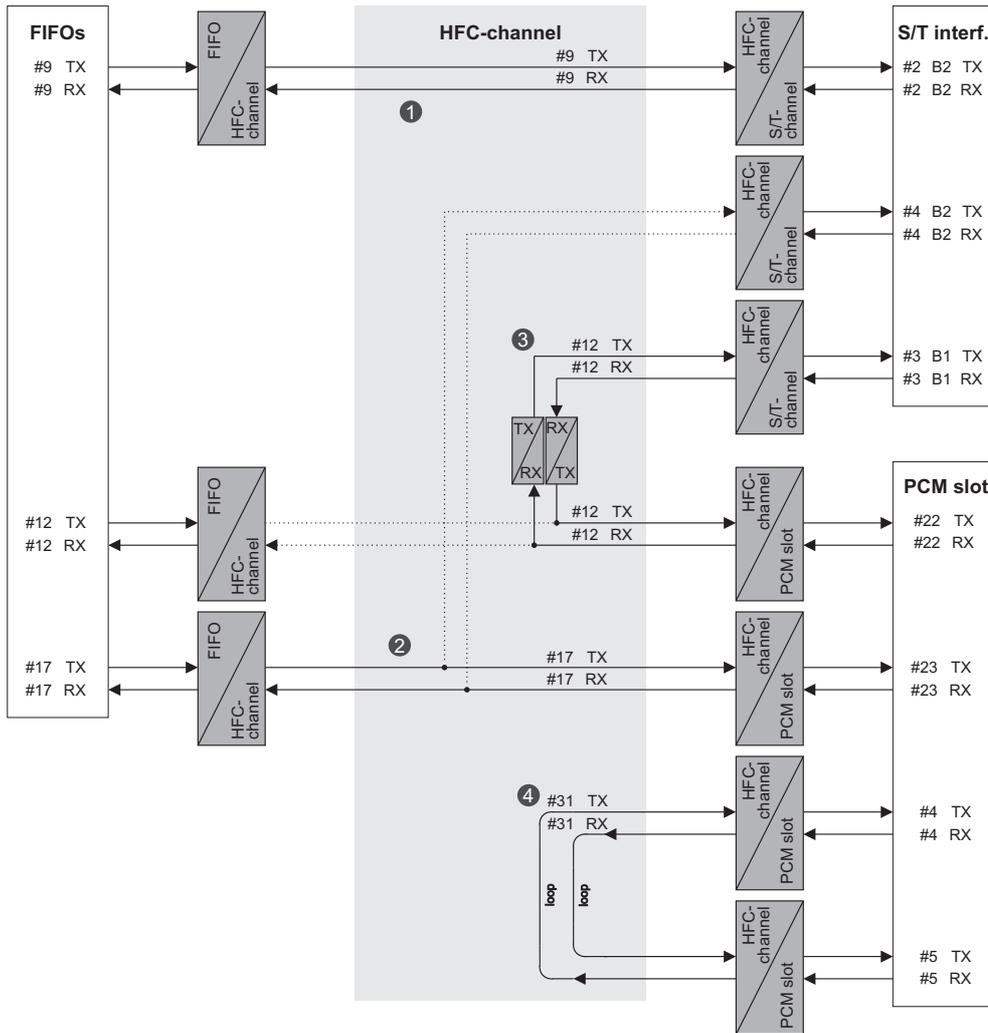

Figure 3.6: SM example
Figure 3.6 shows an example with four bidirectional connections (❶ FIFO-to-S/T, ❷ FIFO-to-PCM, ❸ PCM-to-S/T and ❹ PCM-to-PCM). The FIFO box on the left side contains the number and direction information of the used FIFOs. The S/T and PCM boxes on the right side contain the S/T-channels and PCM time slot numbers and directions which are used in this example. Black lines illustrate data paths, whereas dotted lines symbolize blocked resources. These are not used for the data transmission, but they are necessary to enable the settings.
All settings in Figure 3.6 are configured in bidirectional data paths due to typical applications of HFC-4S/8S. However, transmit and receive directions are independent from each other and could occur one at a time as well.